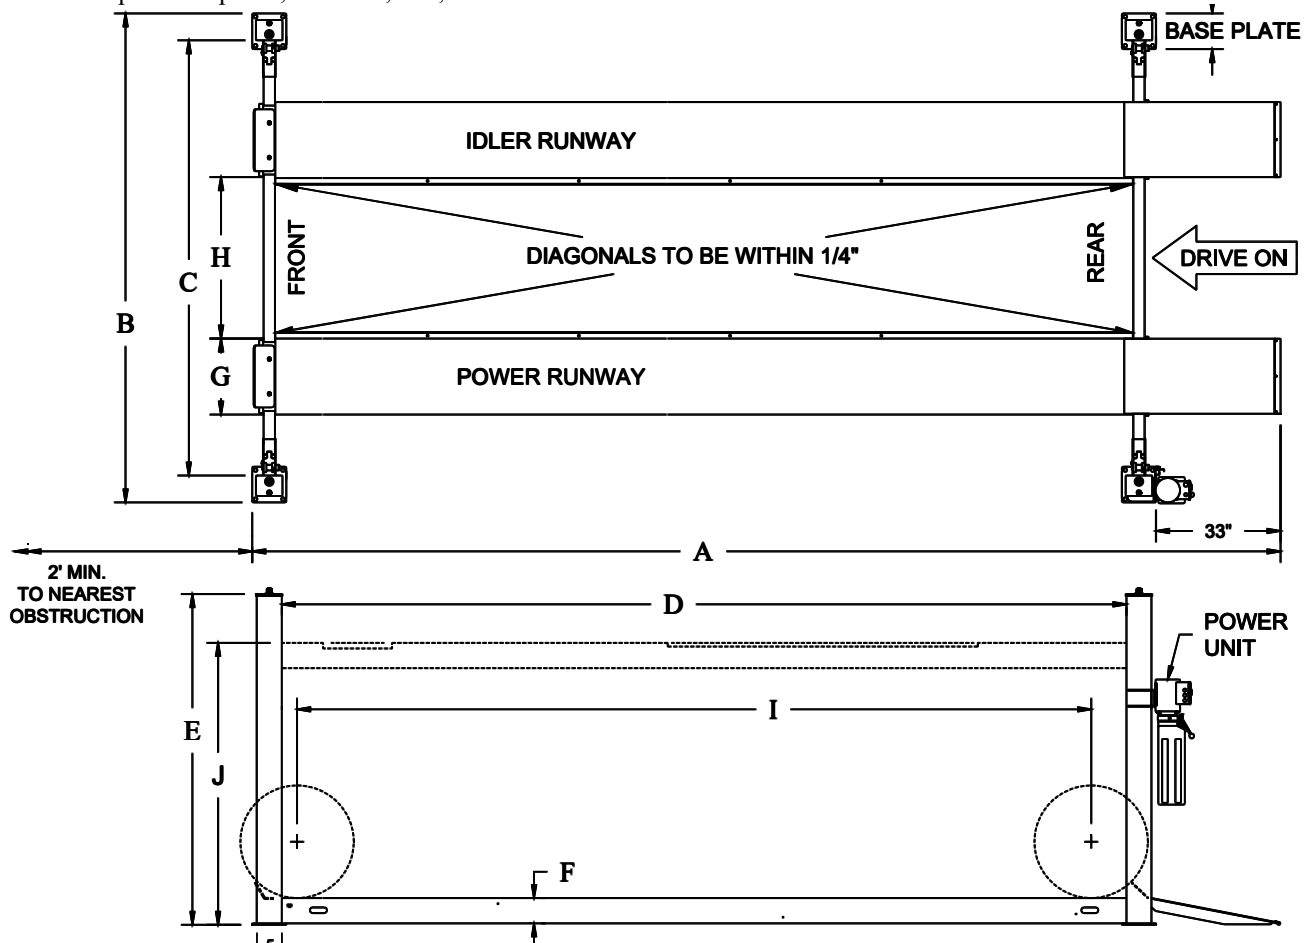
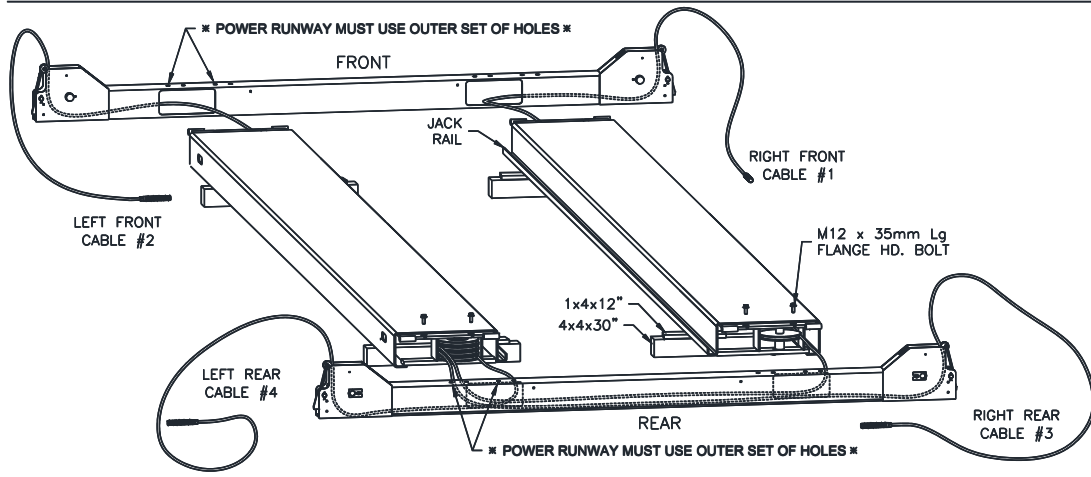

Fig 1 – General Specifications and Service Bay Layout
Fig 4 – Runway Layout
- 1) Lay out the service bay according to the architect's plans or owners instructions, **Fig 1**. Be certain that the proper conditions exist, see page 3.
- 3) Position runways on blocking (see Fig 4) per layout lines established in step 1. Use four 30" long 4x4's spanning the width of the runway and four 12" long 1x4's to shim up the jack-rail side
of the runway. Cable #1, #3, & #4 should be extending out from the rear of the power runway and cable #2 from the front of the power runway, **Fig 4.**
- 4) Position the front and rear cross beams, **Fig 4.** (Both cross beams are identical.)
- 5) Reach in through either of the access holes in the cross beam tube and pull out the roll of 4mm dia. plastic air line connected to the air cylinder at the end of the cross beam. Repeat for opposite access hole and position the cross beam near the end of the runways as in **Fig 4.**
- 13) Attach both cross beams to the runways (**Fig. 4**) with M12 x 35mm lg. flange head bolts (two at each end of each runway) being careful not to pinch the air line. Leave the air lines hanging out the bottom of the cross beam access holes at this time, they will be fed in through the runway after the lift is raised. **The outermost power runway slots should be in line with the outermost holes in the top of the cross beam, see Fig. 4.** The idler runway can be installed using the outer or inner sets of cross beam holes, see “Width Between Runways” dimension in **Fig. 1**. Do not torque bolts yet.